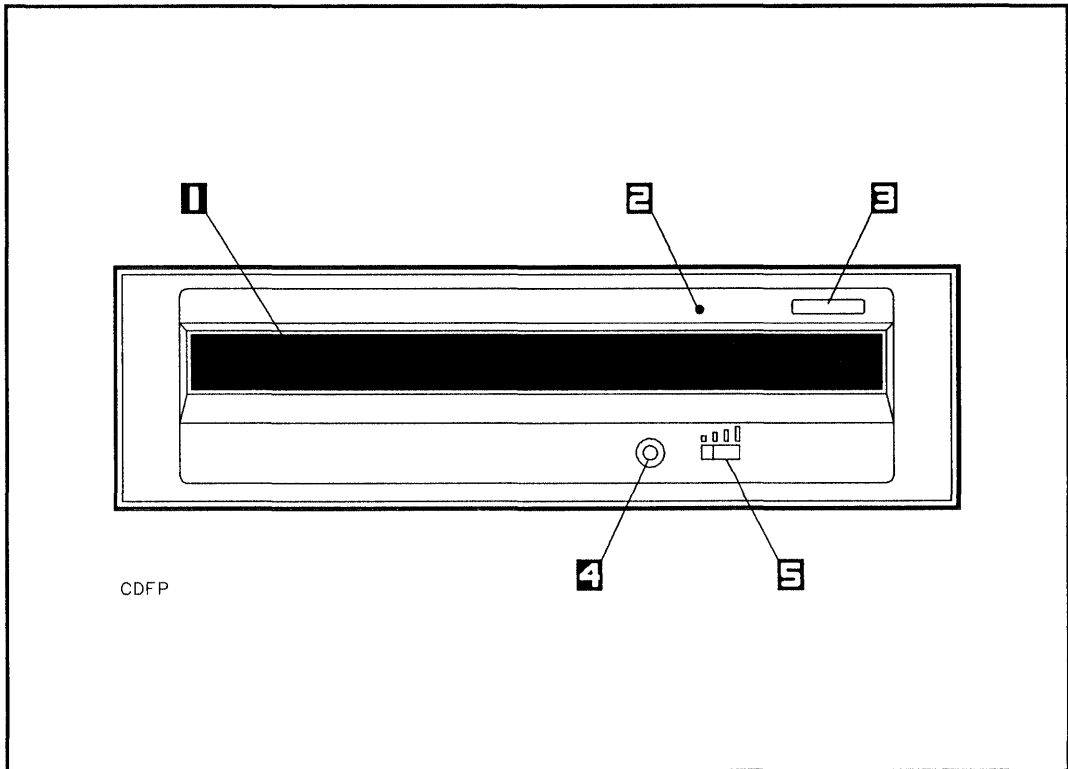

Figure 4-3. CD-ROM Drive Front Panel
To eject a CD-ROM disk caddy, press the disk eject button (see Figure 4-3) continuously for at least three seconds, then pull the disk caddy straight out of the disk port.
When the CD-ROM drive power is switched on, the CD-ROM drive automatically performs a self-test. The CD-ROM busy light shows the status of the CD-ROM drive during the self-test and during activity with the host computer. The CD-ROM busy light is a small orange light-emitting diode (LED) located on the front panel of the CD-ROM drive (see Figure 4-3). If a CD-ROM disk caddy has been inserted into the disk port, the CD-ROM drive performs the following self-test when the power is switched on, and the CD-ROM busy light displays the following sequence:
2. Connect a pair of miniature stereo headphones to the headphone jack (see Figure 4-3).
5. Move the volume switch (see Figure 4-3) from left to right to increase the volume level of the audio signal in three incremental steps.